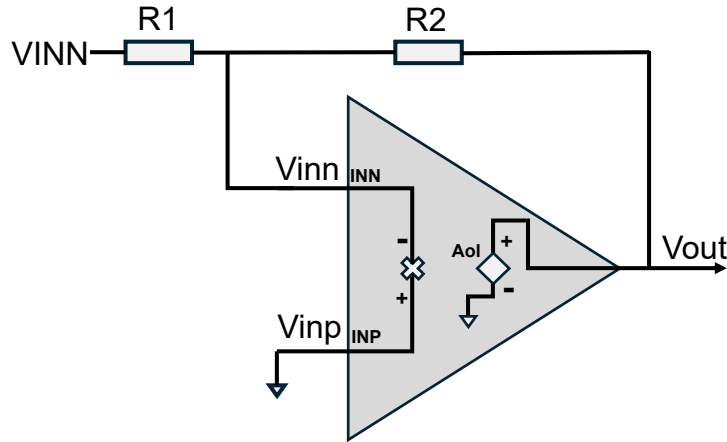

Figure 4. Inverting amplify circuit of OPAMP
Figure 4 shows the inverting amplify circuit for OPAMP. Based on the principle of OPAMP, Equation (9) is derived as follows: